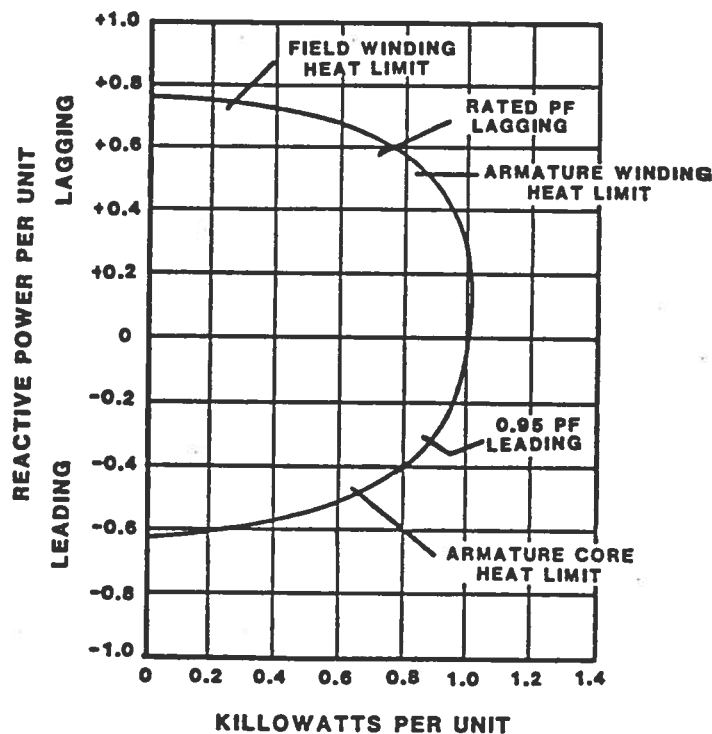

Figure 1-1. Typical Generator Reactive Capability.
The excitation limiter has a circular characteristic that is compatible with typical generator reactive capabilities as shown by Figure 1-1.
- a. Transformer T1 receives a 0-5 ampere signal from an external current transformer (CT) that senses the generator output current. The output of transformer T1 is passed to the VAR and watt detectors.
- d. The VAR limiting action described in paragraph 2.2.a would produce a limiting threshold (refer to Figure 1-1) that would be a horizontal line at the -0.4 to -0.6 per unit level. To produce the output curve required, a watt signal is passed through the forward watt amplifier (non-linear) to the VAR comparator. To assure proper operation, a calibration circuit is provided to set up the proper levels of operation for a wide range of input current levels.